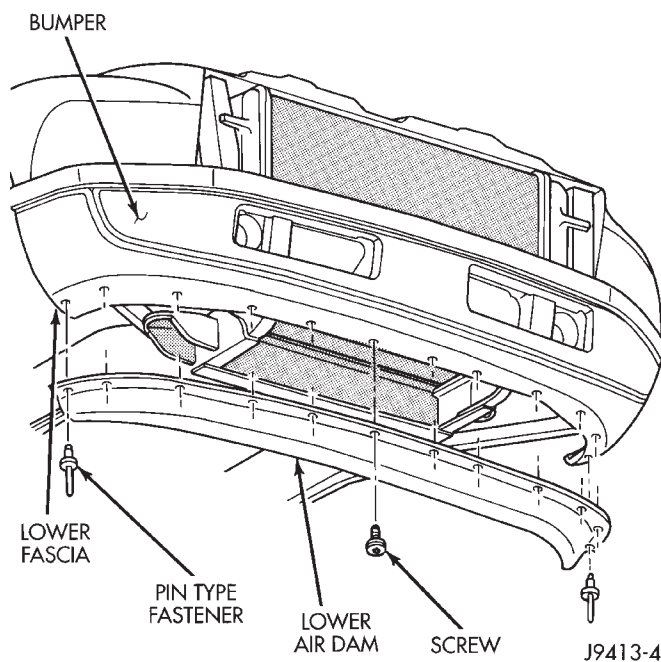

Fig. 4 Front Bumper Air Dam
- (1) Remove Pin-type fasteners holding air dam to bottom of front bumper (Fig. 4).
- (2) Remove screws holding air dam to bottom of front bumper.
- (3) Separate air dam from vehicle.